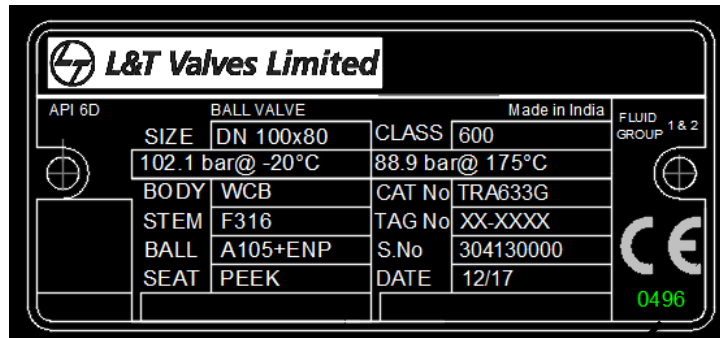

Fig.8. Handling a welded end valve with an extended stem
- In valves with extended stem, do not sling around pipes provided for draining venting and sealant injection, while handling. See Fig.8.